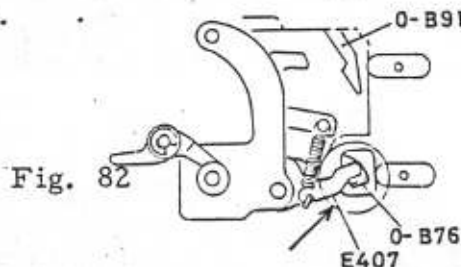

Fig. 82
- 4) E407 Mirror restitution lever must be located inside of 0-B76 Restitution lever hook plate assy. as shown in Fig. 82.